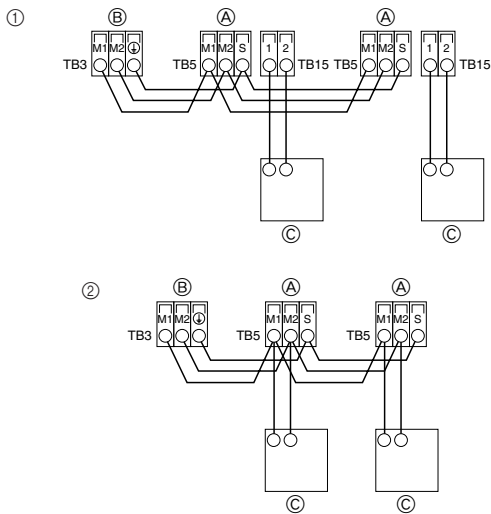

Fig. 6-2
6.2. Connecting remote controller, indoor and outdoor transmission cables (Fig. 6-2)